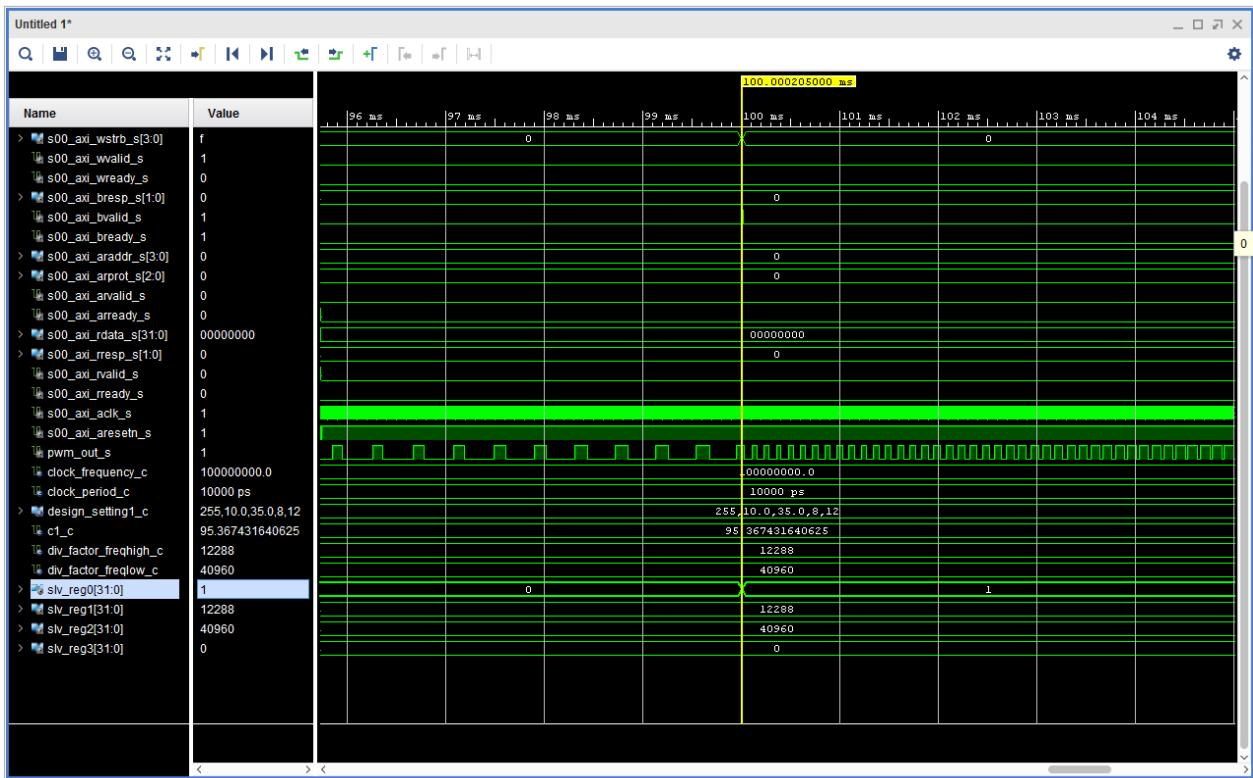

Figure 12.96: Simulation Results - pwm signal frequency change as a result of the change of the sw0 register value
10. If you zoom out a few times more, you can also see the pwm frequency change, when sw0=0 and when sw0=1, see Figure 12.96.